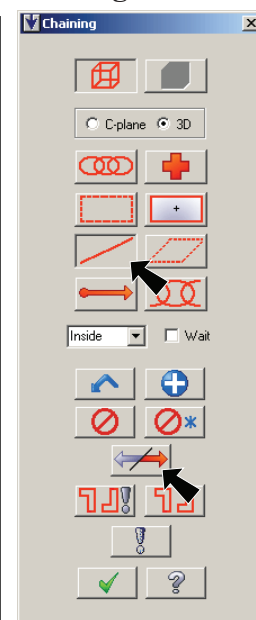

Fig. 3
Step 3. Click the Single button  in the Chaining dialog box, **Fig. 3**.
Step 5. Click OK  in the Chain dialog box, **Fig. 3** and OK  in ribbon bar to fix surface.